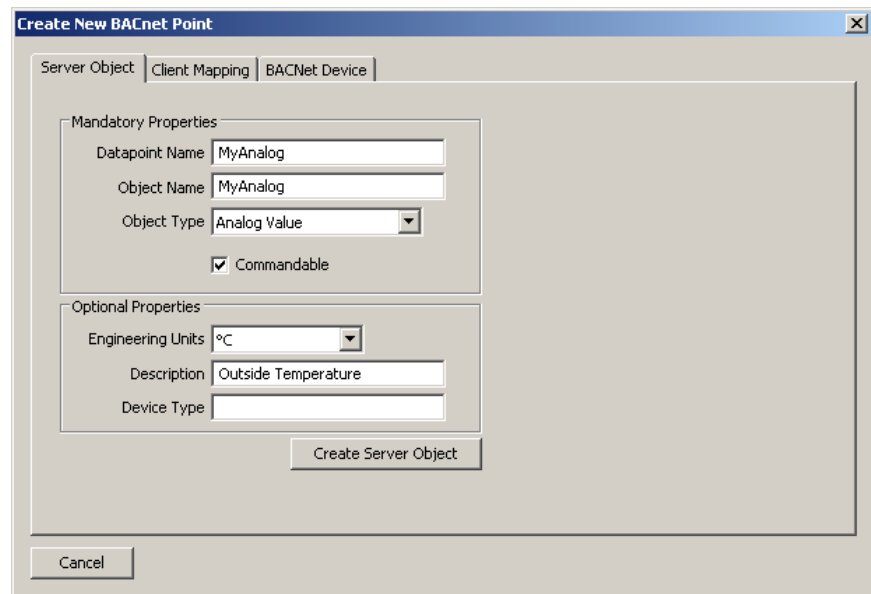

Figure 110: Create a Server Object manually.
2. Right-click in the data point list and select **New Datapoint...** in the context menu. This opens the **Create New BACnet Point** dialog as shown in Figure 110.